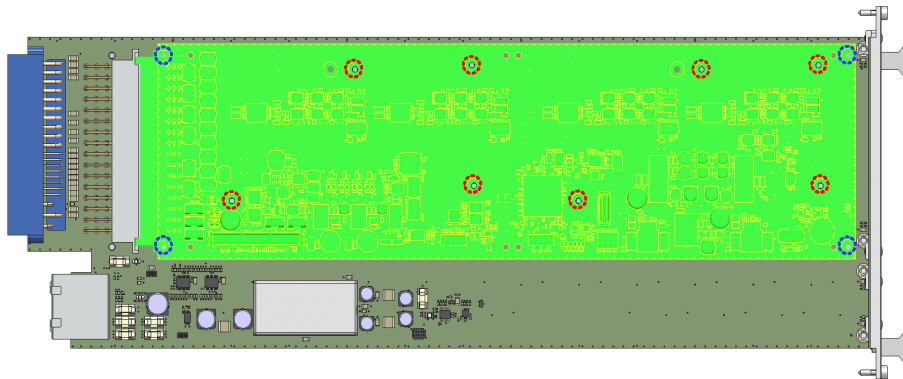

Fig. 2-8 Position of the drilled holes on the ES5372.1-B with installed ES4455.2
3. Place the 12 supplied washers on the drilled holes marked in red and blue in Fig. 2-8.